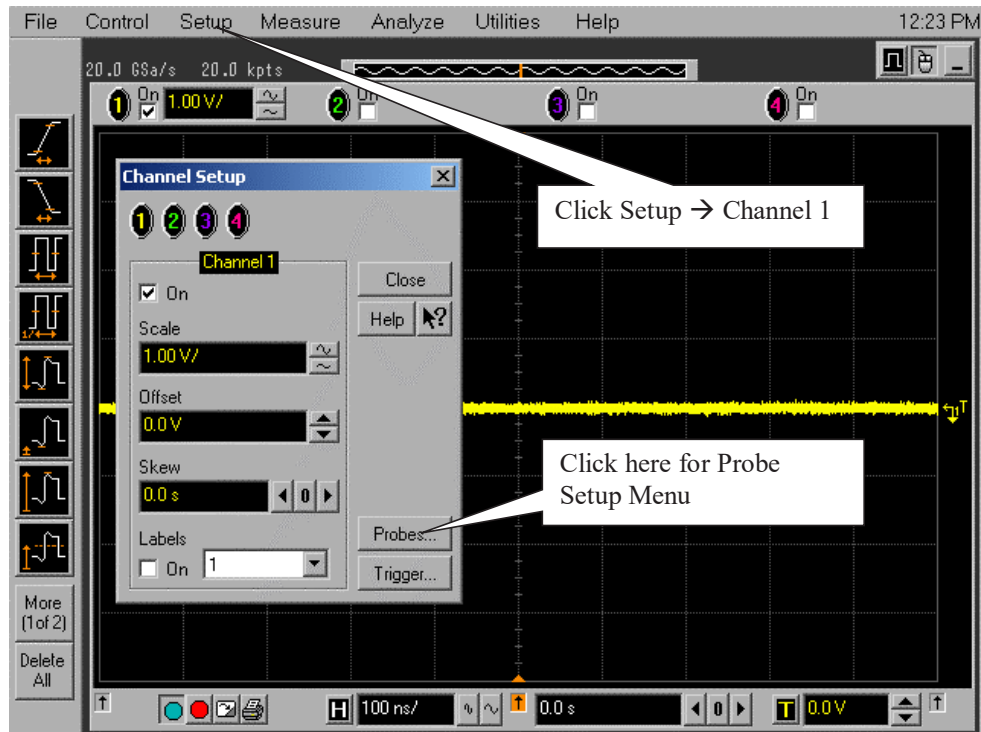

Figure 8 Channel Setup Window.
- 2 Referring to Figure 8 below, perform the following steps:
- 16 Click the Close button on the Channel Setup window (Figure 8 on page 1291) to close this window.